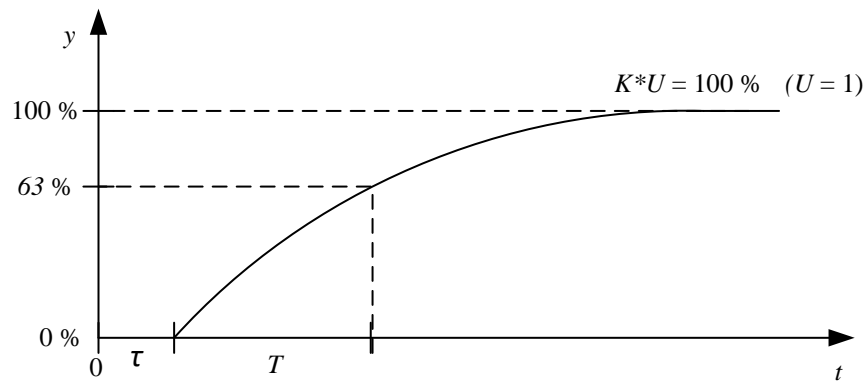

Figure 2: Problem 5: Unit-step response of time-constant with time-delay.
- The unit-step response is shown in Figure 2.